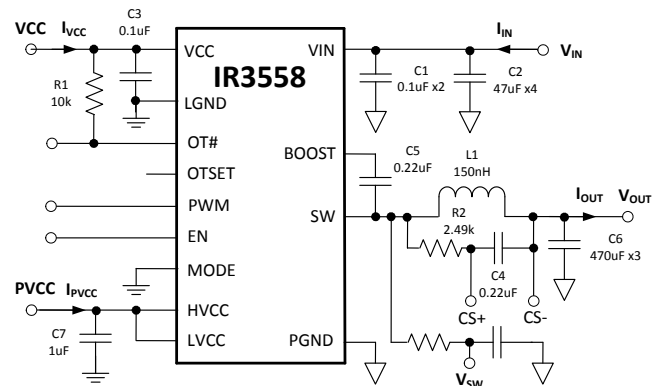

Figure 32: IR3558 Power Loss Measurement
Circuit of Figure 32, $V_{IN}=12V$, $V_{OUT}=1.2V$, $f_{SW}=400kHz$, $L=150nH$ (0.29mΩ), $V_{CC}=5V$, $HVCC=LVCC=7V$, $T_{AMB}=25^{\circ}C$, no heat sink, no air flow, 8-layer PCB board of 3.7" (L) x 2.6" (W), no PWM controller loss, no inductor loss, unless specified otherwise.
Circuit of Figure 32, $V_{IN}=12V$, $V_{OUT}=1.2V$, $f_{SW}=400kHz$, $L=150nH$ (0.29mΩ), $V_{CC}=5V$, $HV_{CC}=LV_{CC}=7V$, $T_{AMB}=25^{\circ}C$, no heat sink, no air flow, 8-layer PCB board of 3.7" (L) x 2.6" (W), no PWM controller loss, no inductor loss, unless specified otherwise.
Circuit of Figure 32, $V_{IN}=12V$, $V_{OUT}=1.2V$, $f_{SW}=400kHz$, $L=150nH$ ($0.29m\Omega$), $V_{CC}=5V$, $HVCC=LVCC=7V$, $T_{AMB}=25^{\circ}C$, no heat sink, no air flow, 8-layer PCB board of 3.7" (L) x 2.6" (W), no PWM controller loss, no inductor loss, unless specified otherwise.
The single-phase IR3558 efficiency and power loss measurement circuit is shown in Figure 32.